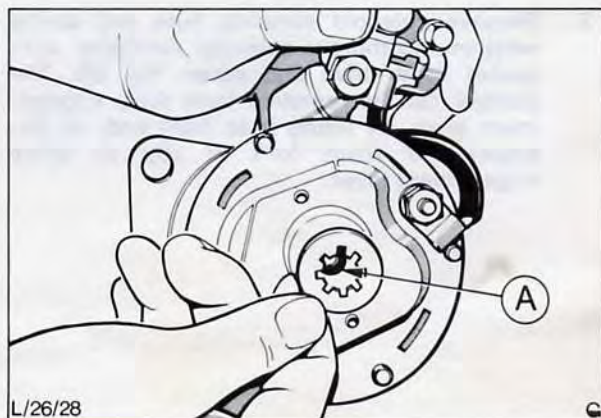

Fig. 55. Fit new star clip onto armature shaft
22. Fit a new star clip onto end of armature shaft, Fig. 55.